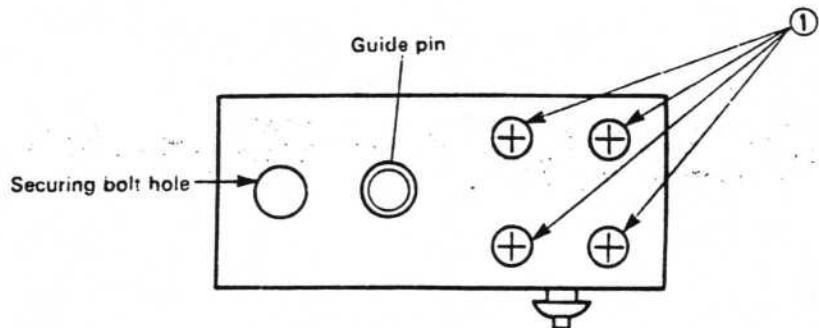

Fig. 17 Underside of the BU cylinder stand
3. Remove the flathead screws (1, x 4) and take off the cylinder (see Fig. 17).